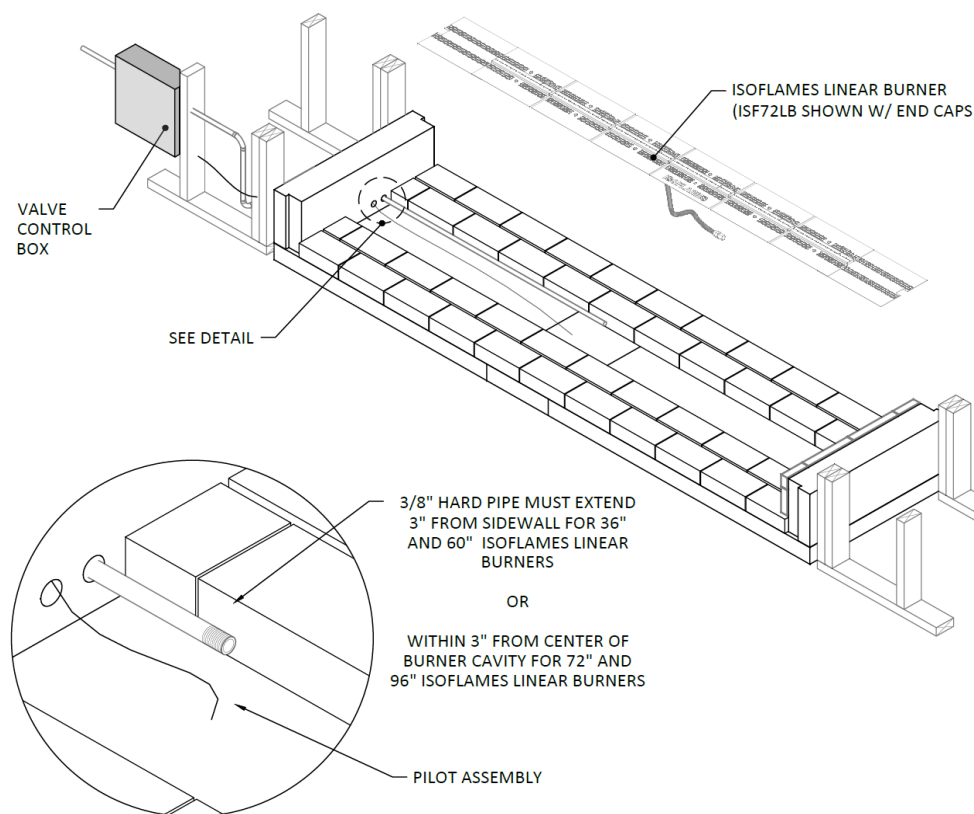

FIGURE 44
- 4) The 48” and 72” Maximus Linear See-Thru fireplaces (82L48ST & 82L72ST) will require the ISF36/60LB (N/P) (respectively): Gas supply piping for these models shall terminate not less than 3” from sidewall. (**Figure 44**)
- 5) The 96” and 120” Maximus Linear See-Thru fireplaces (82L96ST & 82L120ST) will require the ISF72/96LB (N/P) (respectively): Gas supply stub piping for these models shall terminate within 3” from center of the cavity. (**Figure 44**)